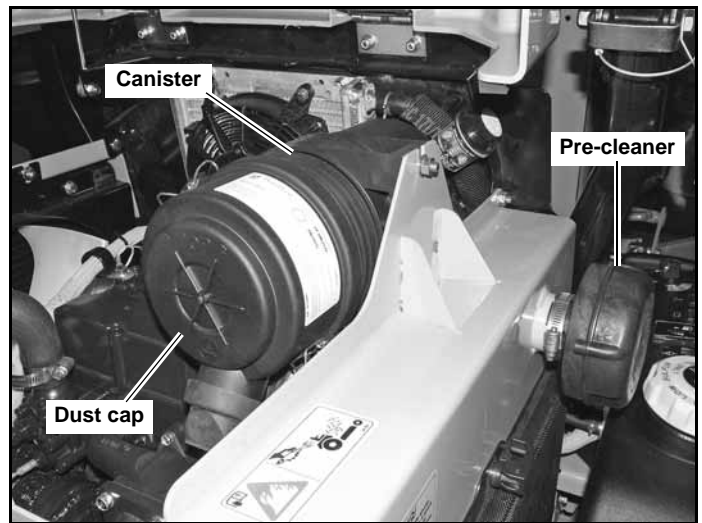

Figure 4-9
A specially designed dry filter is standard equipment on these mowers and supplies clean combustion air to the engine. Figure 4-9
3. Reinstall the dust cap. Make sure it seals all the way around the air cleaner body, then tighten the clamps. Figure 4-9